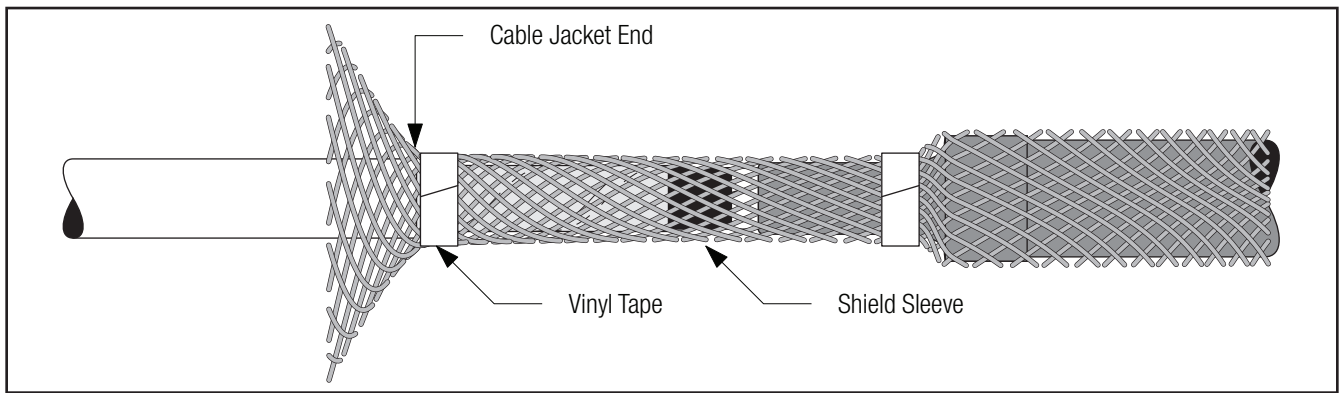

Figure 22
6.2.1 Secure sleeve to cable metallic shield next to each cable jacket using two wraps of vinyl tape (*Figure 22*).